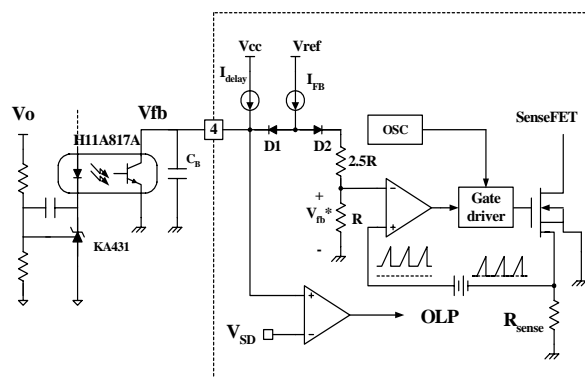

Figure 5. Pulse width modulation (PWM) circuit
**2. Feedback Control** : FSDM0565RB employs current mode control, as shown in Figure 5. An opto-coupler (such as the H11A817A) and shunt regulator (such as the KA431) are typically used to implement the feedback network. Comparing the feedback voltage with the voltage across the Rsense resistor plus an offset voltage makes it possible to control the switching duty cycle. When the reference pin voltage of the KA431 exceeds the internal reference voltage of 2.5V, the H11A817A LED current increases, thus pulling down the feedback voltage and reducing the duty cycle. This event typically happens when the input voltage is increased or the output load is decreased.
**2.1 Pulse-by-pulse current limit**: Because current mode control is employed, the peak current through the Sense FET is limited by the inverting input of PWM comparator ( $V_{fb}^*$ ) as shown in Figure 5. Assuming that the 0.9mA current source flows only through the internal resistor ( $2.5R + R = 2.8 k\Omega$ ), the cathode voltage of diode D2 is about 2.5V. Since D1 is blocked when the feedback voltage ( $V_{fb}$ ) exceeds 2.5V, the maximum voltage of the cathode of D2 is clamped at this voltage, thus clamping  $V_{fb}^*$ . Therefore, the peak value of the current through the Sense FET is limited.